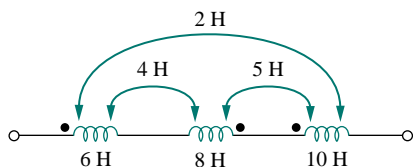

Figure 13.72 For Prob. 13.1.
13.1 For the three coupled coils in Fig. 13.72, calculate the total inductance.